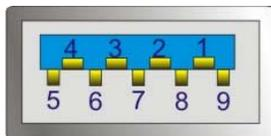

Figure 3-24: USB 3.0 Port
- CN Pinouts:** See **Table 3-6** and **Figure 3-24**